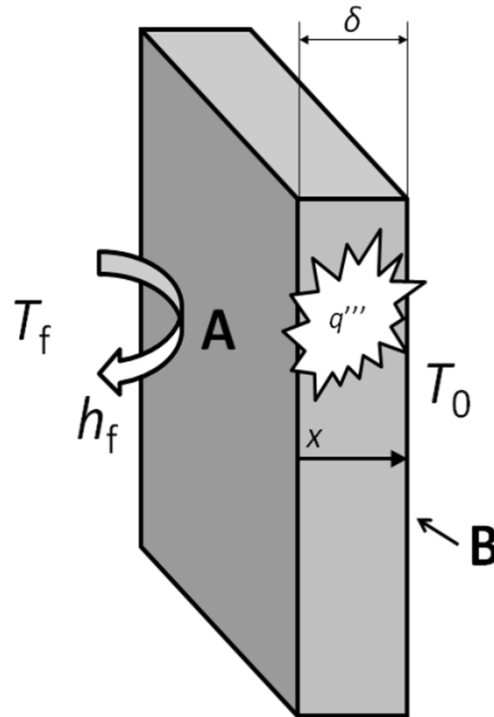

Fig. 4
- 4) In the same geometry of exercise 1, the insulation on the adiabatic wall is removed so that surface A experiences now heat transfer by convection to a fluid at $T_f = 273$ K (heat transfer coefficient $h_f = 100$ W/m²/K), see Fig. 4. Compute analytically and numerically (using FD) the temperature distribution in the slab, and compare the two solutions on the same plot.